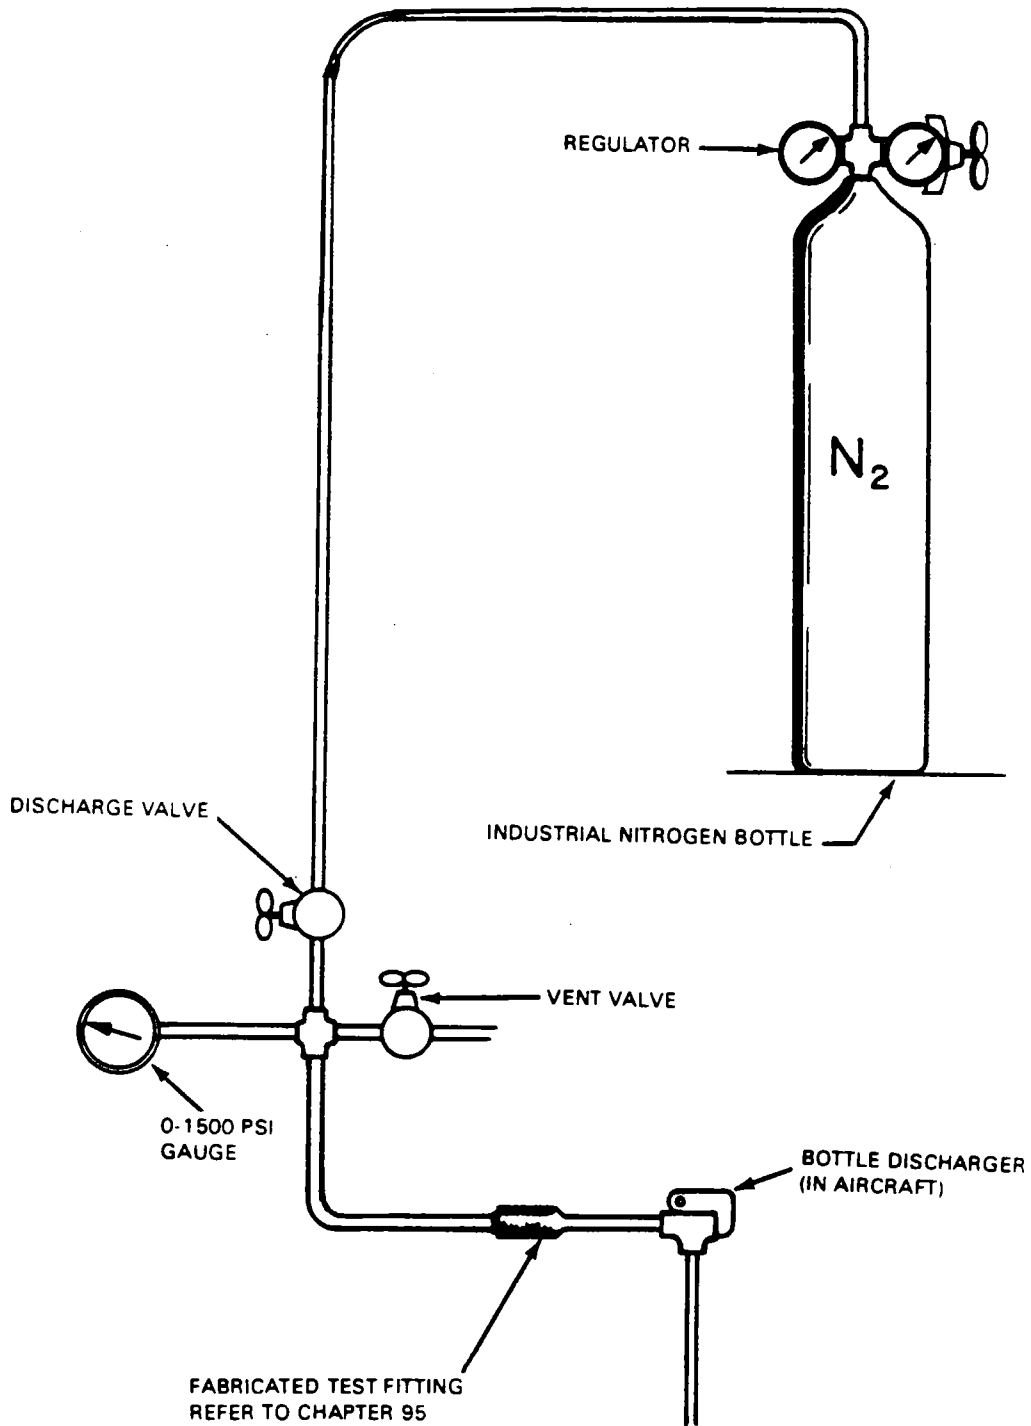

Figure 32-11a. Test Equipment Installation, Emergency Gear Extension System
This test procedure should be used whenever the system has been opened for any service and at each 1000 hour inspection, to insure system operation and integrity. To perform this test a special fitting must be fabricated and installed in place of the gas storage bottles. (Refer to Chapter 95 for details.) Also needed is a source of nitrogen gas such as an industrial 3000 psig. cylinder along with regulator, pressure gauge, control valves and lines. (Refer to Figure 32-11a for suggested hookup and equipment.)
4. Install the fabricated test fitting into one of the open discharger assemblies. Insure that the test valves shown in figure 32-11a are closed.